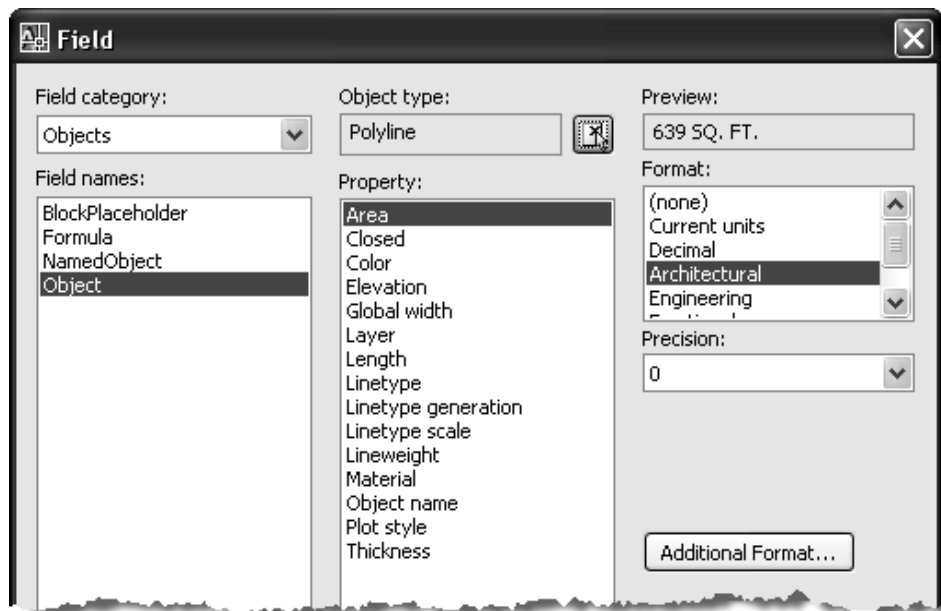

Figure 3-4.6 Field dialog box; polyline selected
17. Select **Architectural** under *Format* and set the *Precision* to **0**. Notice the *Preview* changes (Figure 3-4.6).